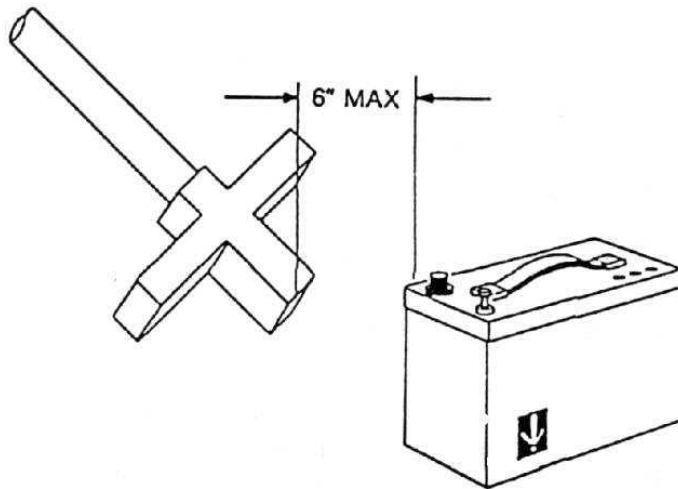

Figure 4, Position of the receiver for checkout
- Position the Receiver as shown in Figure 4. The end of the Receiver needs to be close to the transmitter, not more than 6 inches away. The digital signal strength indicator should display 950 or above. (Note the field strength figure; you will be using it for comparison in the next step of the procedure.)
- Position the Receiver selector switch in the line tracing mode (third position), move the Receiver back from the transmitter 2 to 5 feet. Point the Receiver at the transmitter as in Figure 4, the left/right guidance needle will be centered on the meter and the tone will be silent.